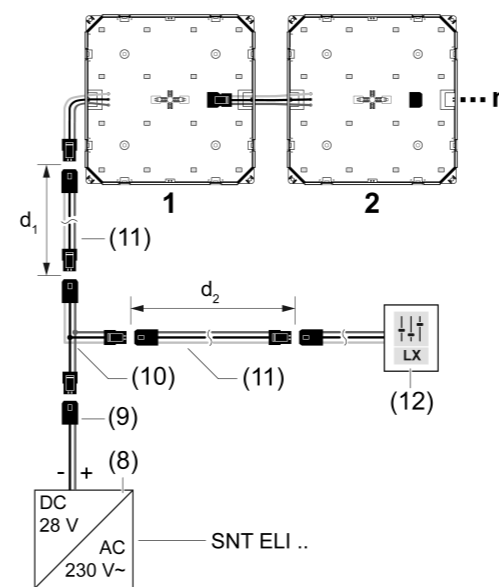

Figure 8: Electrical connection
- i The connections of the LED lamp are compatible with the LEDTRIX contacting system. To connect the power supplies "SNT ELI 0-20 W / 0-57 W / 0-120 W", the LEDTRIX PSU connection (58924040) is required as adapter cable (9). The power supply "SNT ELI 0-9 W" already possesses a suitable plug connector and thus does not require an additional adapter cable.
- Connect the first LED lamp to the power supply (8) using the adapter cable (9) (Figure 8).
- Using the supply line (4), connect additional LED lamps to the output socket (5) of the first LED lamp.
- For grid installation with connectors: Fasten the supply line (4) in the retaining brackets of the connectors (7) as shown.